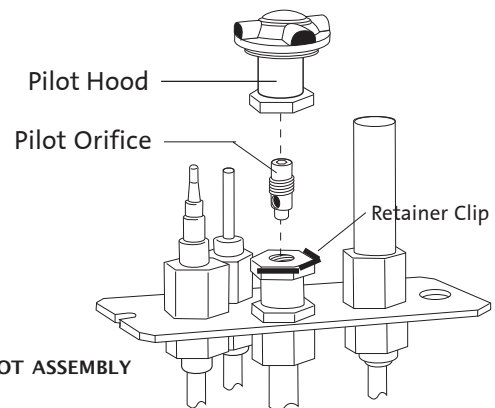

Figure 32. Pilot Orifice replacement.
- FROM WITHIN THE FIREBOX, disengage the Pilot Hood by releasing the retainer clip as shown in fig. 32. Using the 4 mm hex key supplied, unscrew the pilot orifice (counterclockwise). Replace with the appropriate orifice: #51 for Natural gas #30 for Propane